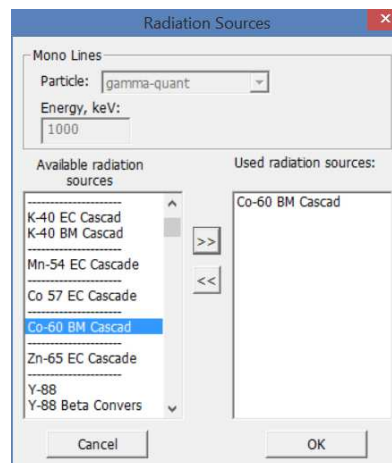

Figure 53.15
7.12 In the menu of the window **Calculation** select **Options->Radiation type**. In the appeared window **Radiation sources** (see Figure 53.15) in the left field find the source 'Co-60 BM Cascad' and press the button **>>**, after that the selected source will move to the right field **Used radiation sources**. Click **OK**. [Section 4.3].